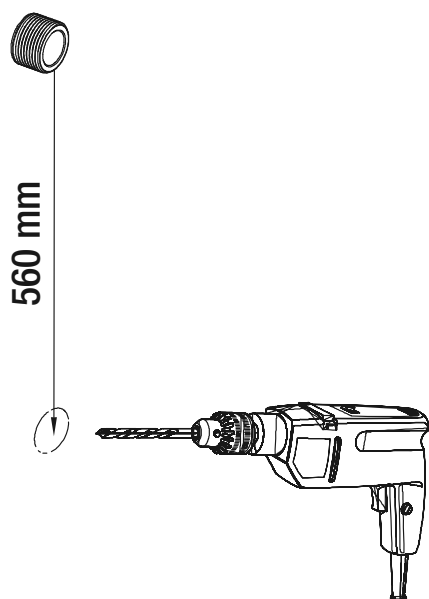

Fig.3
- Mark a spot approximately 560 mm from the center of the BSP thread (shower wall outlet) and drill a 6 mm hole for the bottom bracket (H) as shown in Fig. 3 and 4.